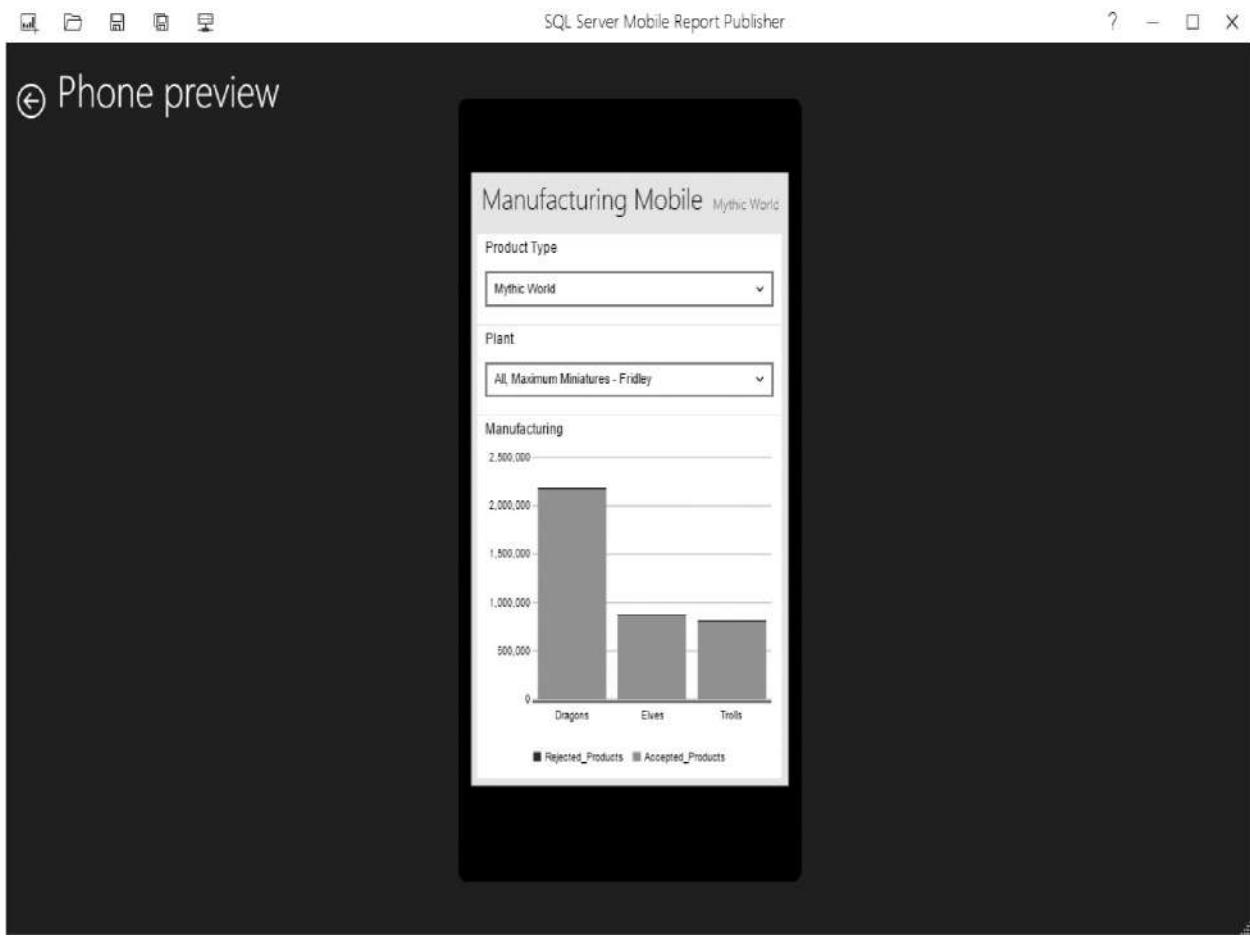

**Figure 17-22** The Manufacturing Mobile report Data tab
40. Click Done. The Data tab appears, as shown in Figure 17-22.